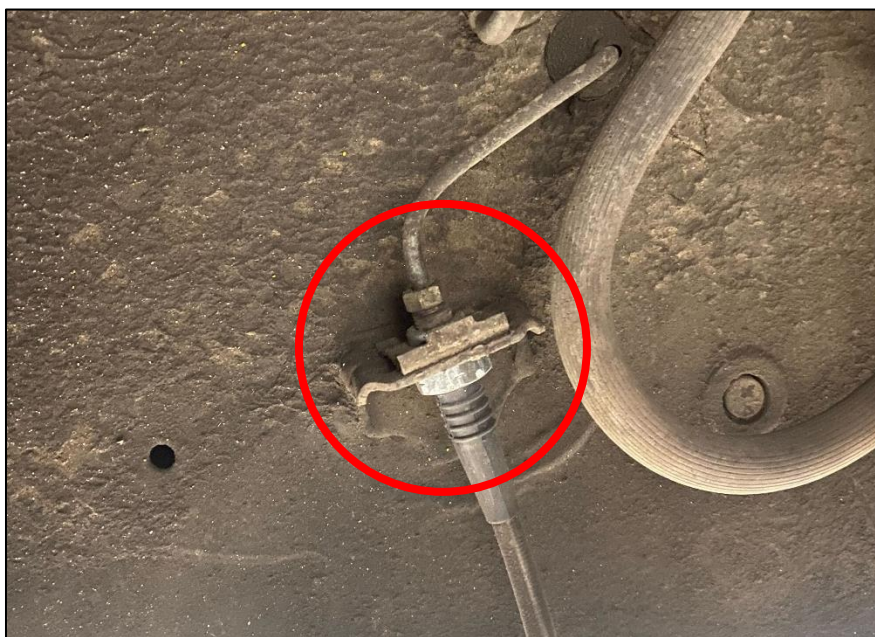

Figure 9
18. Locate the new Brake Line. If you have both Front and Rear Brake Lines, the Front Lines are the longer ones. Install the open end into the Brake Hard Line on the chassis and secure it with an OEM Retaining Clip. *Figure 9*.